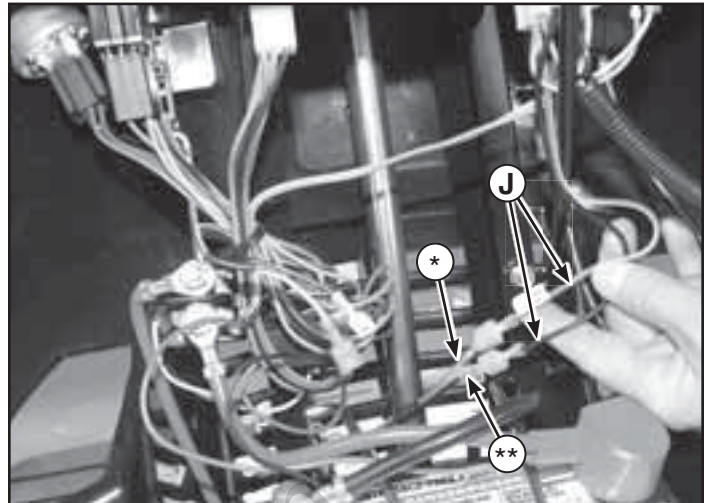

Figure 21
4. Locate the tractor power leads (Figure 21), red with yellow stripe (*) and black (**), at the base of steering column. Connect these leads, color to color, to the upper wiring harness (J).